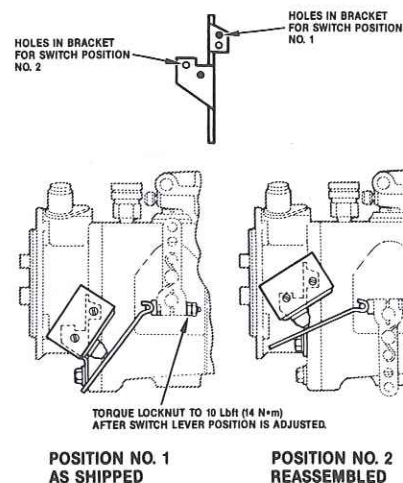

Fig. 35
4. With the throttle shaft in the idle position, move actuating arm until switch actuates. Hold in this position and torque nut to 10 lbft. (14 N·m). See Fig. 35.